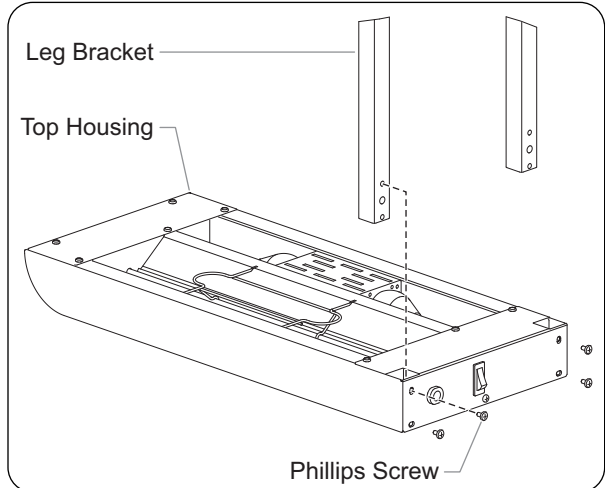

Figure 5. Assembly of Top Housing and Leg Bracket
4. Using the four screws provided, attach both posts brackets to the top housing (see Figure 5.).